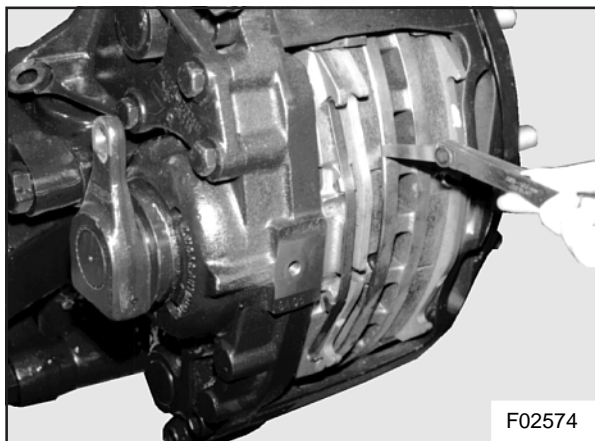

Figure 2 : Checking lining-to-disc clearance.
3. At the operating lever side of the caliper, measure lining-to-disc clearance with a feeler gauge (correct total clearance : 0.6 to 0.75 mm/0.025 to 0.030 inch. See Figure 2). Adjust by turning the adjuster stem in the proper direction.